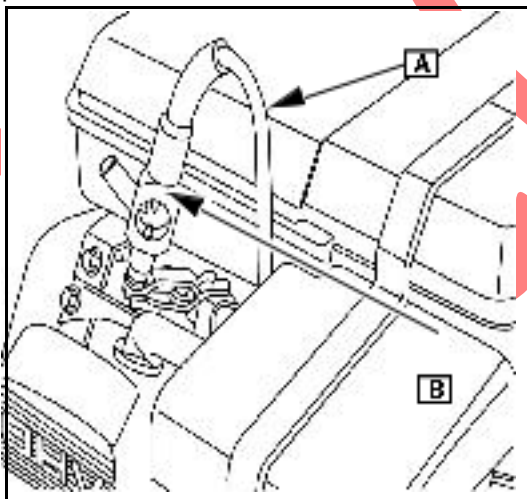

Fig. 1
Connect the spark plug wire (A) to the long terminal of Ignition Tester #19368 (B) Fig. 1). Ground the tester to the engine with the alligator clip.